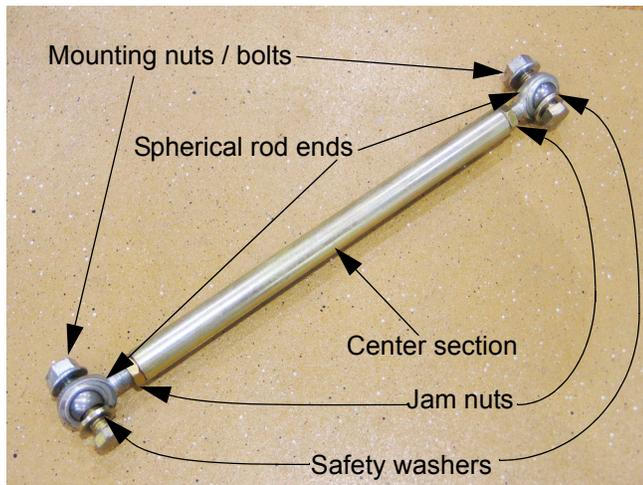

Figure 9.11
9.11. To adjust the lateral brace: See Figure 9.11.